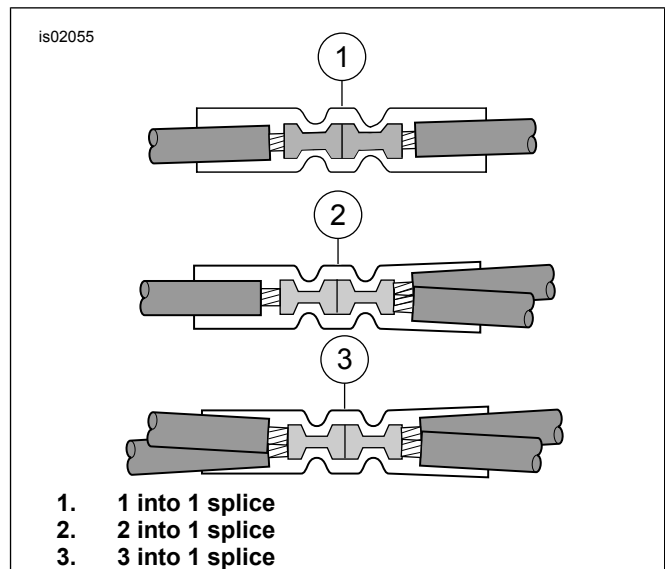

Figure 1. Splice Configurations
2. Use a sealed splice connector (6) from the kit to splice the black lead from the mini-tach harness to one of the black (BK) wire leads coming from the instrument cluster connector [20]. See Figure 1, the 2 into 1 splice configuration.
- Obtain a sealed splice connector (6) from the kit. See Figure 1, the 2 into 1 splice configuration. Splice the mini-tach wire harness power lead and two segments of the orange/white (O/W) lead from cavity #2 according to the instructions in the service manual appendix.
- Obtain a sealed splice connector (6) from the kit. Carefully slice open an area of the main harness wrap, and cut an orange/white (O/W) main harness power lead at an accessible point. See Figure 1, the 2 into 1 splice configuration. Splice the mini-tach wire harness power lead to the main harness power lead according to the instructions in the service manual appendix.
- Using a sealed splice connector (6) from the kit, splice the two orange/white wires. See Figure 1, the 1 into 1 splice configuration.
- Install the 2 Amp fuse (8) from the kit into the P&A IGN fuse cavity to complete the circuit. Install the three fuses removed in Step 2 into the proper cavities.
- See Figure 2. Obtain a sealed splice connector (6) from the kit. Carefully slice open an area of the main harness wrap, and cut an orange/white (O/W) main harness power lead at an accessible point. See Figure 1, the 2 into 1 splice configuration. Splice the mini-tach wire harness power lead to the main harness power lead according to the instructions in the service manual appendix.